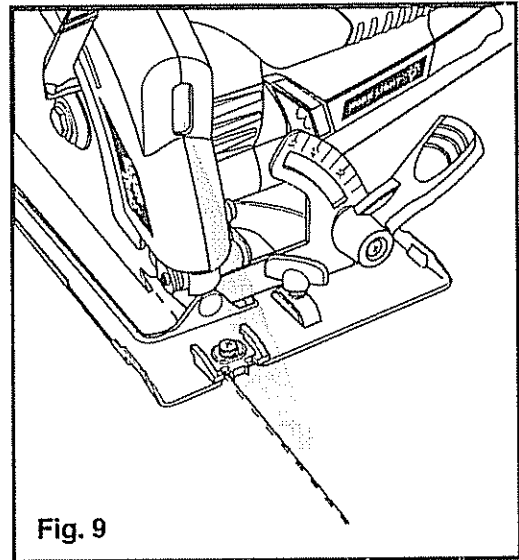

Fig. 9
### USING THE LASER TRAC™ LASER LIGHT FEATURE (Fig. 9)
5. Align laser beam with line-of-cut (see Fig. 9)